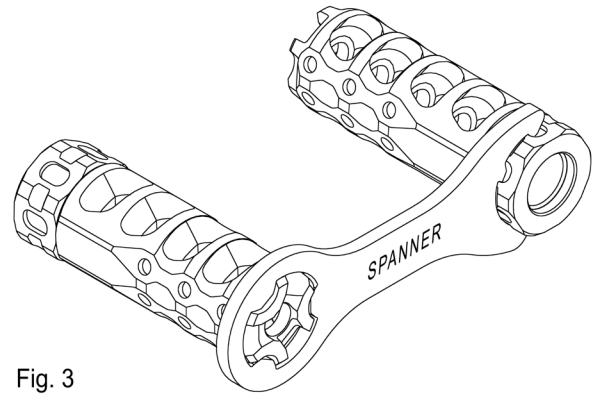

Fig. 3
4. Hold the brake body in timed position using either the included spanner tool inserted over the skeletonized crown (Fig. 3) or an adjustable wrench on the top/bottom flats. Note: Spanner tool can be used to assist timing alignment by eye sighting the wrench handle to a vertical orientation).
5. Turn the timing nut back until it contacts the barrel shoulder. Using the other included spanner tool inserted into the nut slots (Fig. 3) or an additional adjustable wrench on the nut flats, apply approximately 20 ft-lbs of torque. (The included spanner tool will achieve approximately 20 ft-lbs when torqued as hard as comfortably possible).
**REMOVAL:** Turn the TIMING NUT in the opposite direction from installation using either the included spanner tool (Fig. 3) or an adjustable wrench. Once the pre-load torque is breeched, the brake/nut assembly will thread freely off barrel.